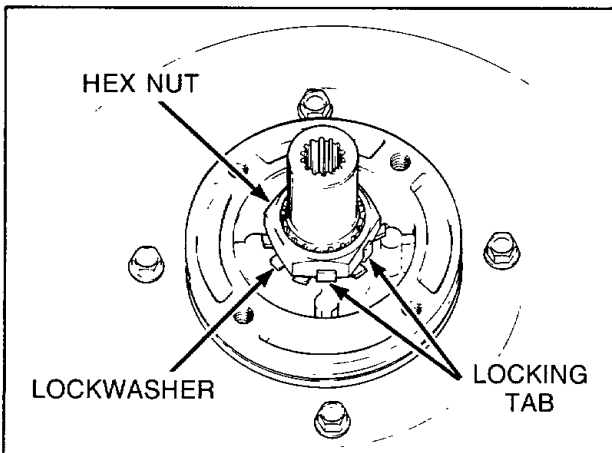

Figure 29
- h. Straighten bent tab(s) on lockwasher, *Figure 29*, then remove hex nut using No. 237P4 Hex Wrench.
**IMPORTANT:** Torque locknut down between 40 to 70 foot pounds (54.23 to 94.91 N·m). If a torque wrench is not available, tap hex wrench with a hammer until hub turns or until nut will no longer tighten. After nut has been tightened, bend at least two locking tabs on lockwasher into place on hex nut, *Figure 29*.
- i. Straighten bent tab(s) on lockwasher, *Figure 29*,